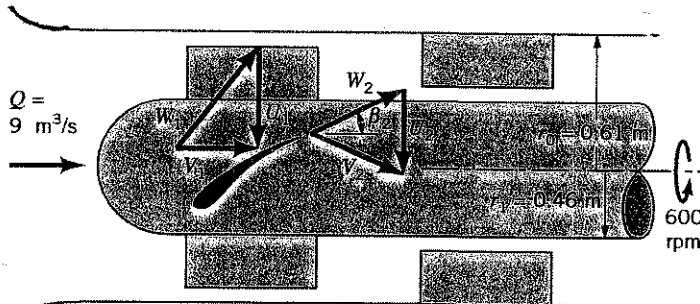

FIGURE P12.63
12.63 The single-stage, axial-flow turbomachine shown in Fig. P12.63 involves water flow at a volumetric flowrate of $9 \text{ m}^3/\text{s}$. The rotor revolves at 600 rpm. The inner and outer radii of the annular flow path through the stage are 0.46 and 0.61 m, and $\beta_2 = 60^\circ$. The flow entering the rotor row and leaving the stator row is axial when viewed from the stationary casing. Is this device a turbine or a pump? Estimate the amount of power transferred to or from the fluid.
12. 64 Describes what will happen when the flow through the turbomachine of Fig. P12.63 is in the opposite direction (right to left) and the shaft is freed up to rotate in response to the reversed flow.